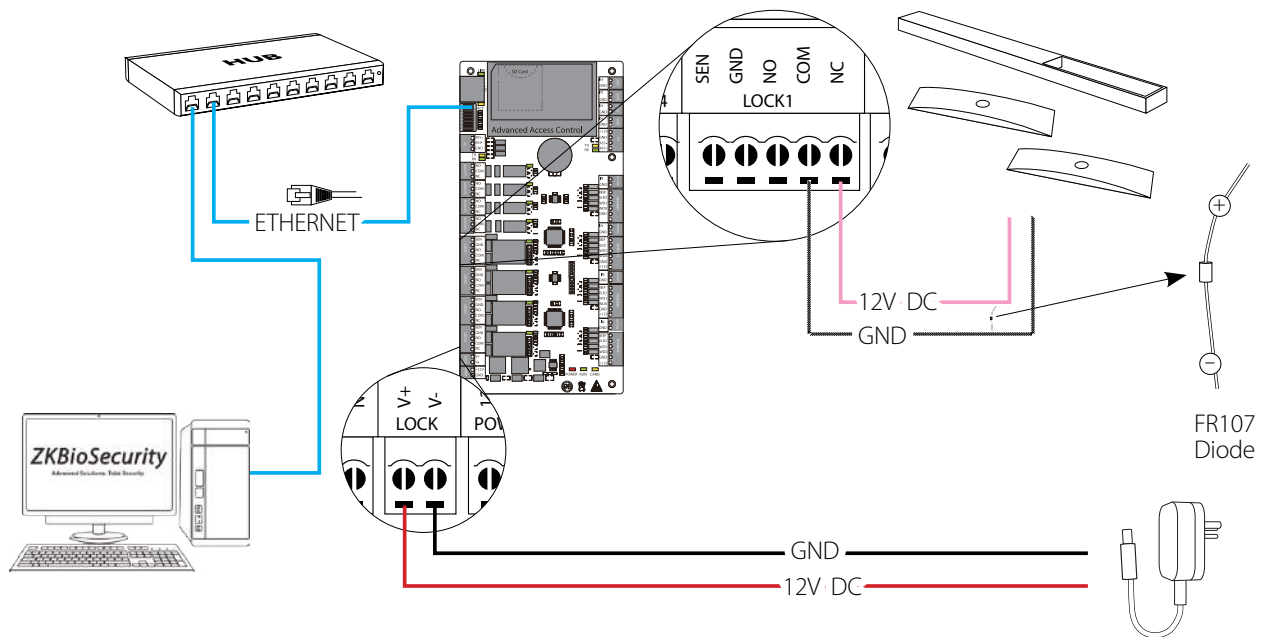

Figure 21
1. Take apart the cover of C3-400 Pro. Push the tab inward (see figure 21)